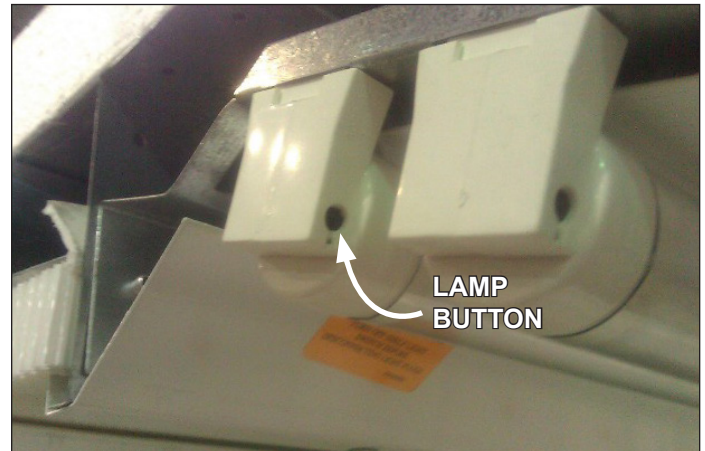

Fig. 17 Align new T-8 with plug button to secure
3. Push the new T-8 lamp into place on the lamp holder. When the T-8 is properly seated, the lamp button - which secures the T-8 to the lamp holder - will be clearly visible through the lamp button hole (Fig. 17).